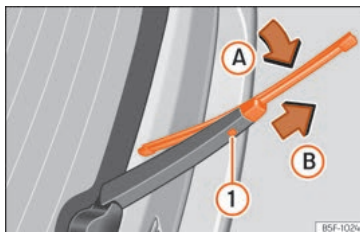

Fig. 86 Changing the rear wiper blade
- Turn the blade slightly » **Fig. 86** (arrow **A**).